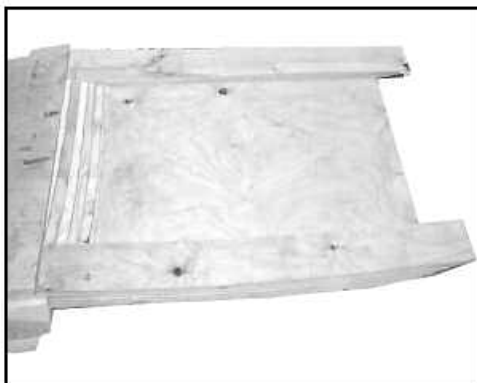

Fig. 9: Ramp\_pallet
- Position the ramp against the pallet and nail it down (Fig. 9 / p. 7).